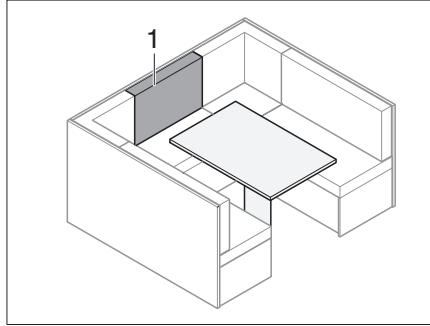

Fig. 187 Prior to conversion
- Lay the back cushion (Fig. 187,1) before the additional cushion on the table.